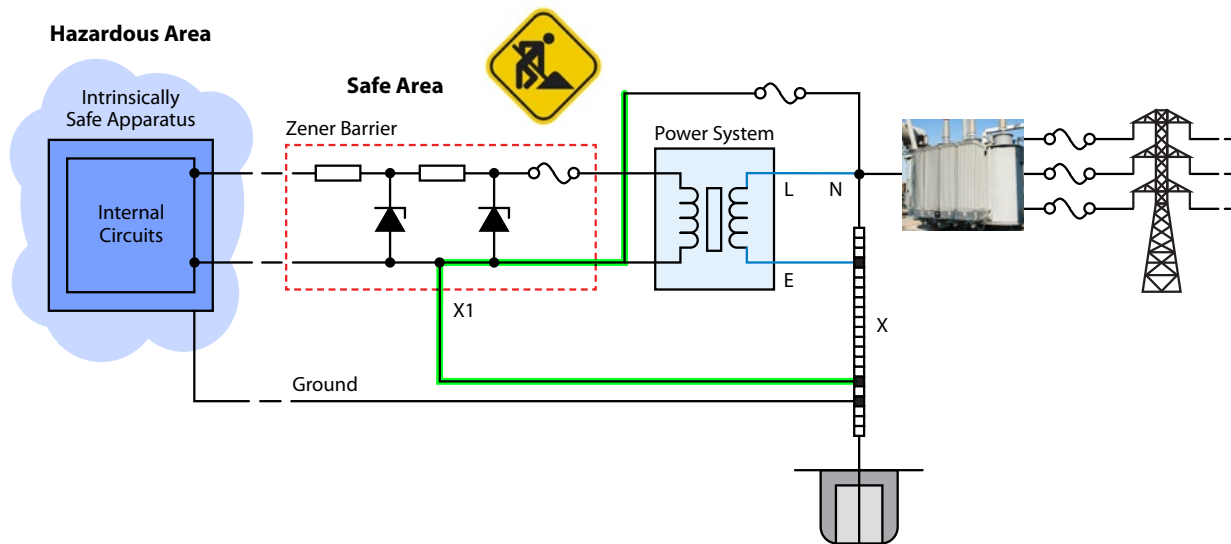

Figure 1. Hazardous vs. non-hazardous environments.
Today, the use of devices that are certified to be Intrinsically Safe (IS) is a requirement of operating electronic equipment in a potentially explosive areas, as shown in *Figure 1*.